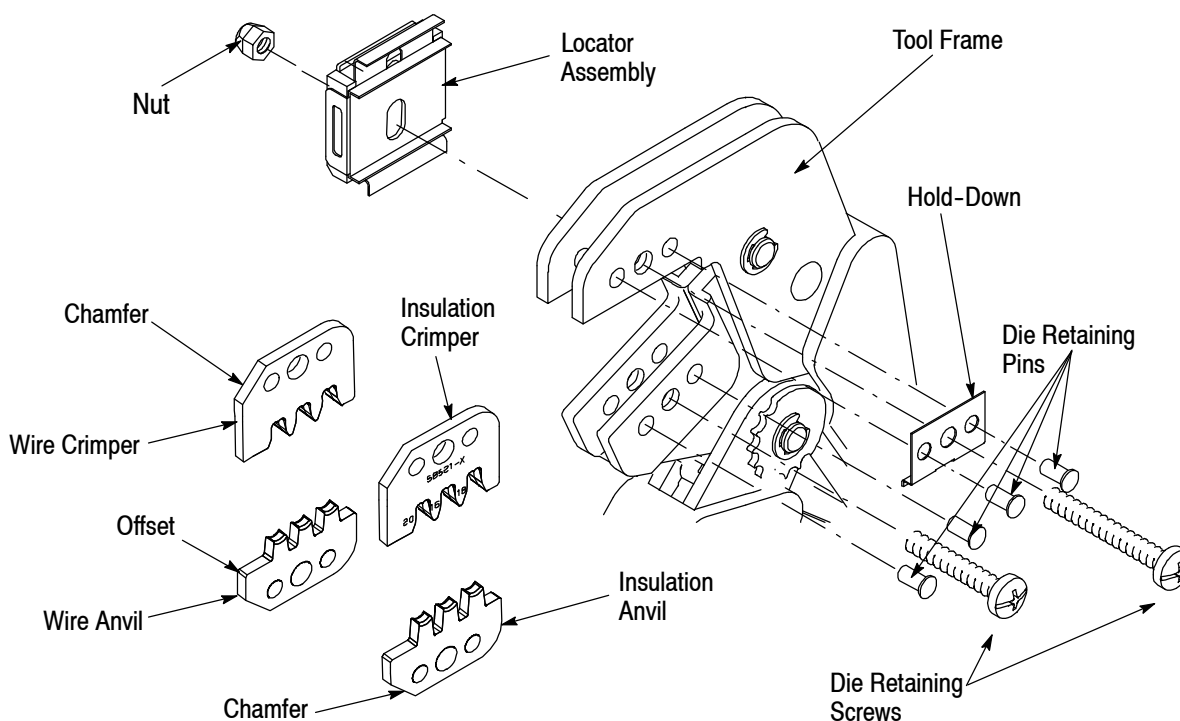

Figure 2
2. DESCRIPTION (Figures 1 and Figure 2)
3. INSTALLATION AND REMOVAL OF DIE SET AND LOCATOR ASSEMBLY (Figure 2)
- Corrected art in Figures 2 and 3